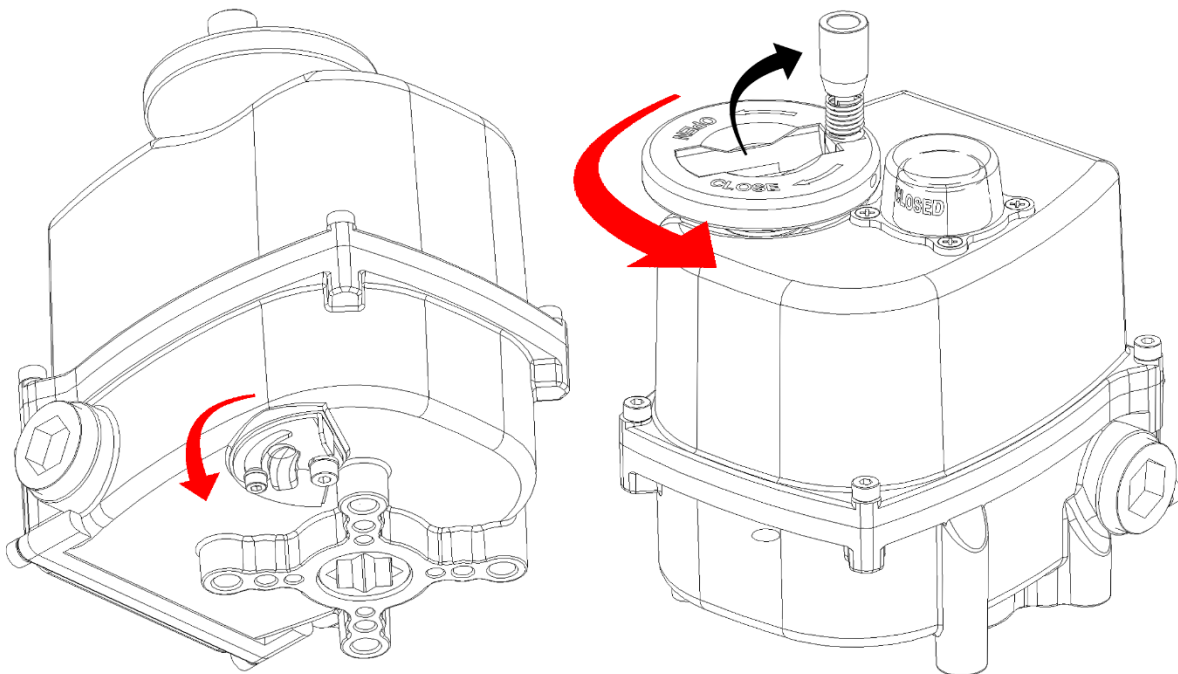

Figure 9: Manual Operation.
- 1 Shift the lever on the bottom of the actuator from “auto” to “manual” to set the actuator to manual override, a small “wiggle” of the lever wheel might be necessary to shift the lever (Figure 9).
- 2 Fold the gripping rod from the lever wheel (Figure 9).